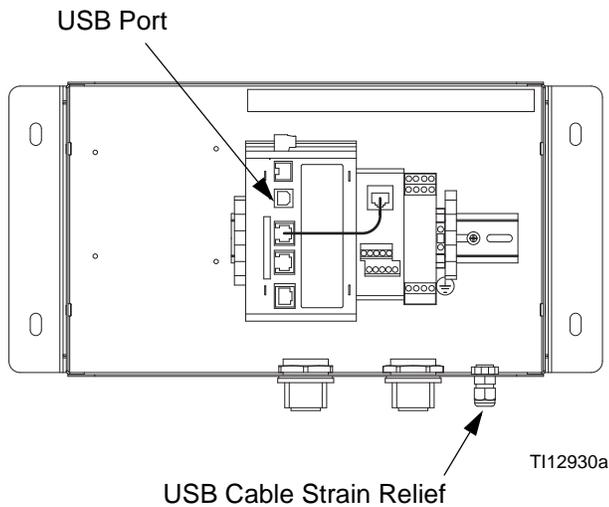

FIG. 13: Gateway Module USB Port
1. Connect the USB cable (23, supplied) between the USB port on the Gateway module and a USB port on your PC. See FIG. 13.